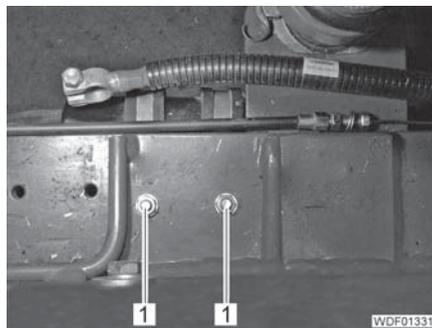

Fig. 407 Dryer attachment
- Unscrew the 2 nuts (Fig. 407,1).
- Screw 2 nuts (Fig. 407,1) onto the screws.